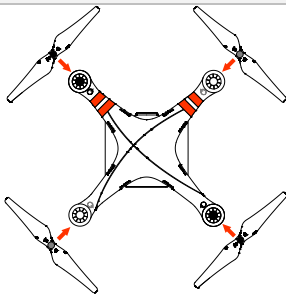

Figure 2-2
2. ( Figure 2-2 ) Prepare the two grey nut propellers and two black nut propellers. Make sure to match the black nut propellers with the correctly marked black dot motors. Tighten the propellers according to the fastening instructions.